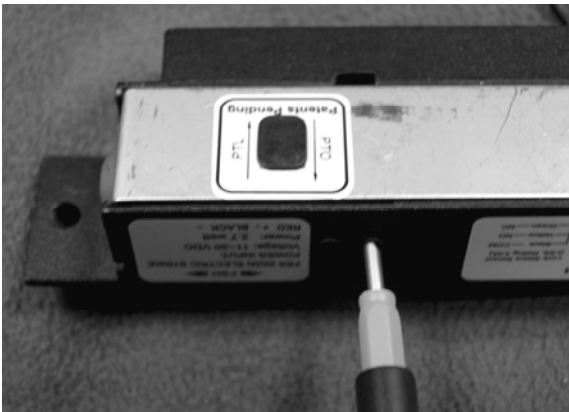

Figure5
- Step 5: Tighten the two capstan releasing screws and replace the rubber cap. See (Figure 5).